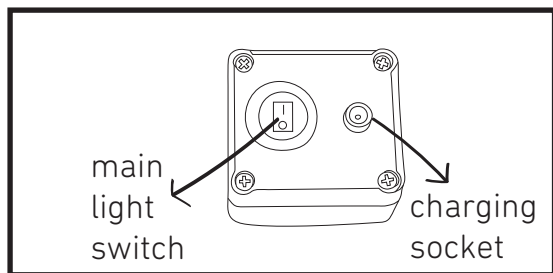

Fig. 3
1. The control panel is located inside the product (Fig. 3).